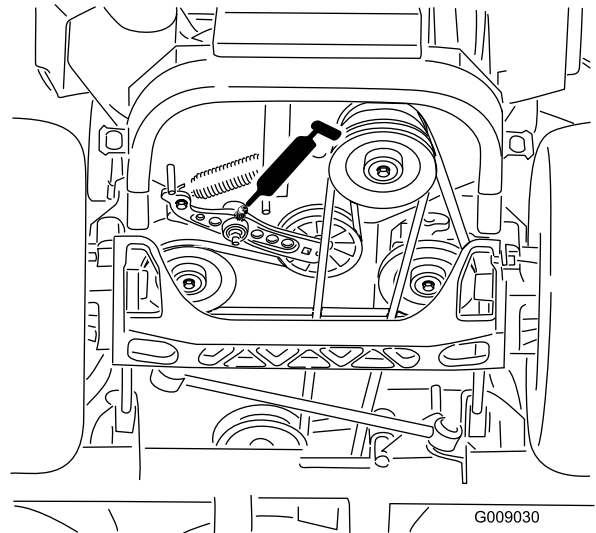

Figure 46
5. Grease the drive-belt idler arm (Figure 46).